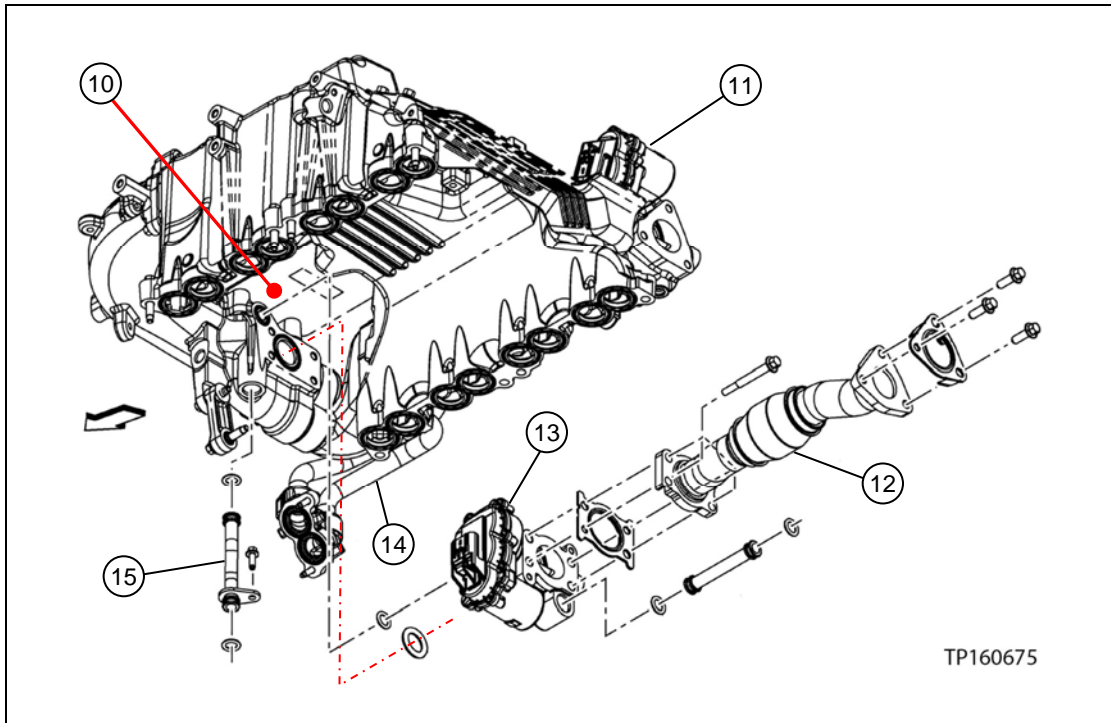

Figure 4D
- d. EGR bypass valve (page 55, Figure 4D, # 13). If oil residue and/or debris is found, replace it.
- e. EGR bypass tube (page 55, Figure 4D, # 12): This part will be reused. Clean out excessive oil and/or debris.
- f. “Spider” section of intake manifold (page 55, Figure 4D, # 10):